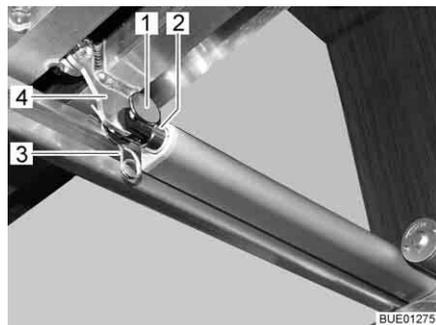

Fig. 111 Drive
- Remove the connection (e.g. pin and cotter pin (Fig. 111,1 and 3)) between the push rod (Fig. 111,2) and the slatted frame (Fig. 111,4).